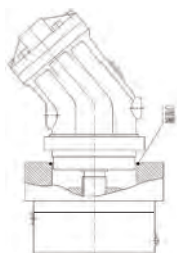

Figure 6: flange O ring mounting
- 2.Put O ring into the O ring groove of input flange as figure 6